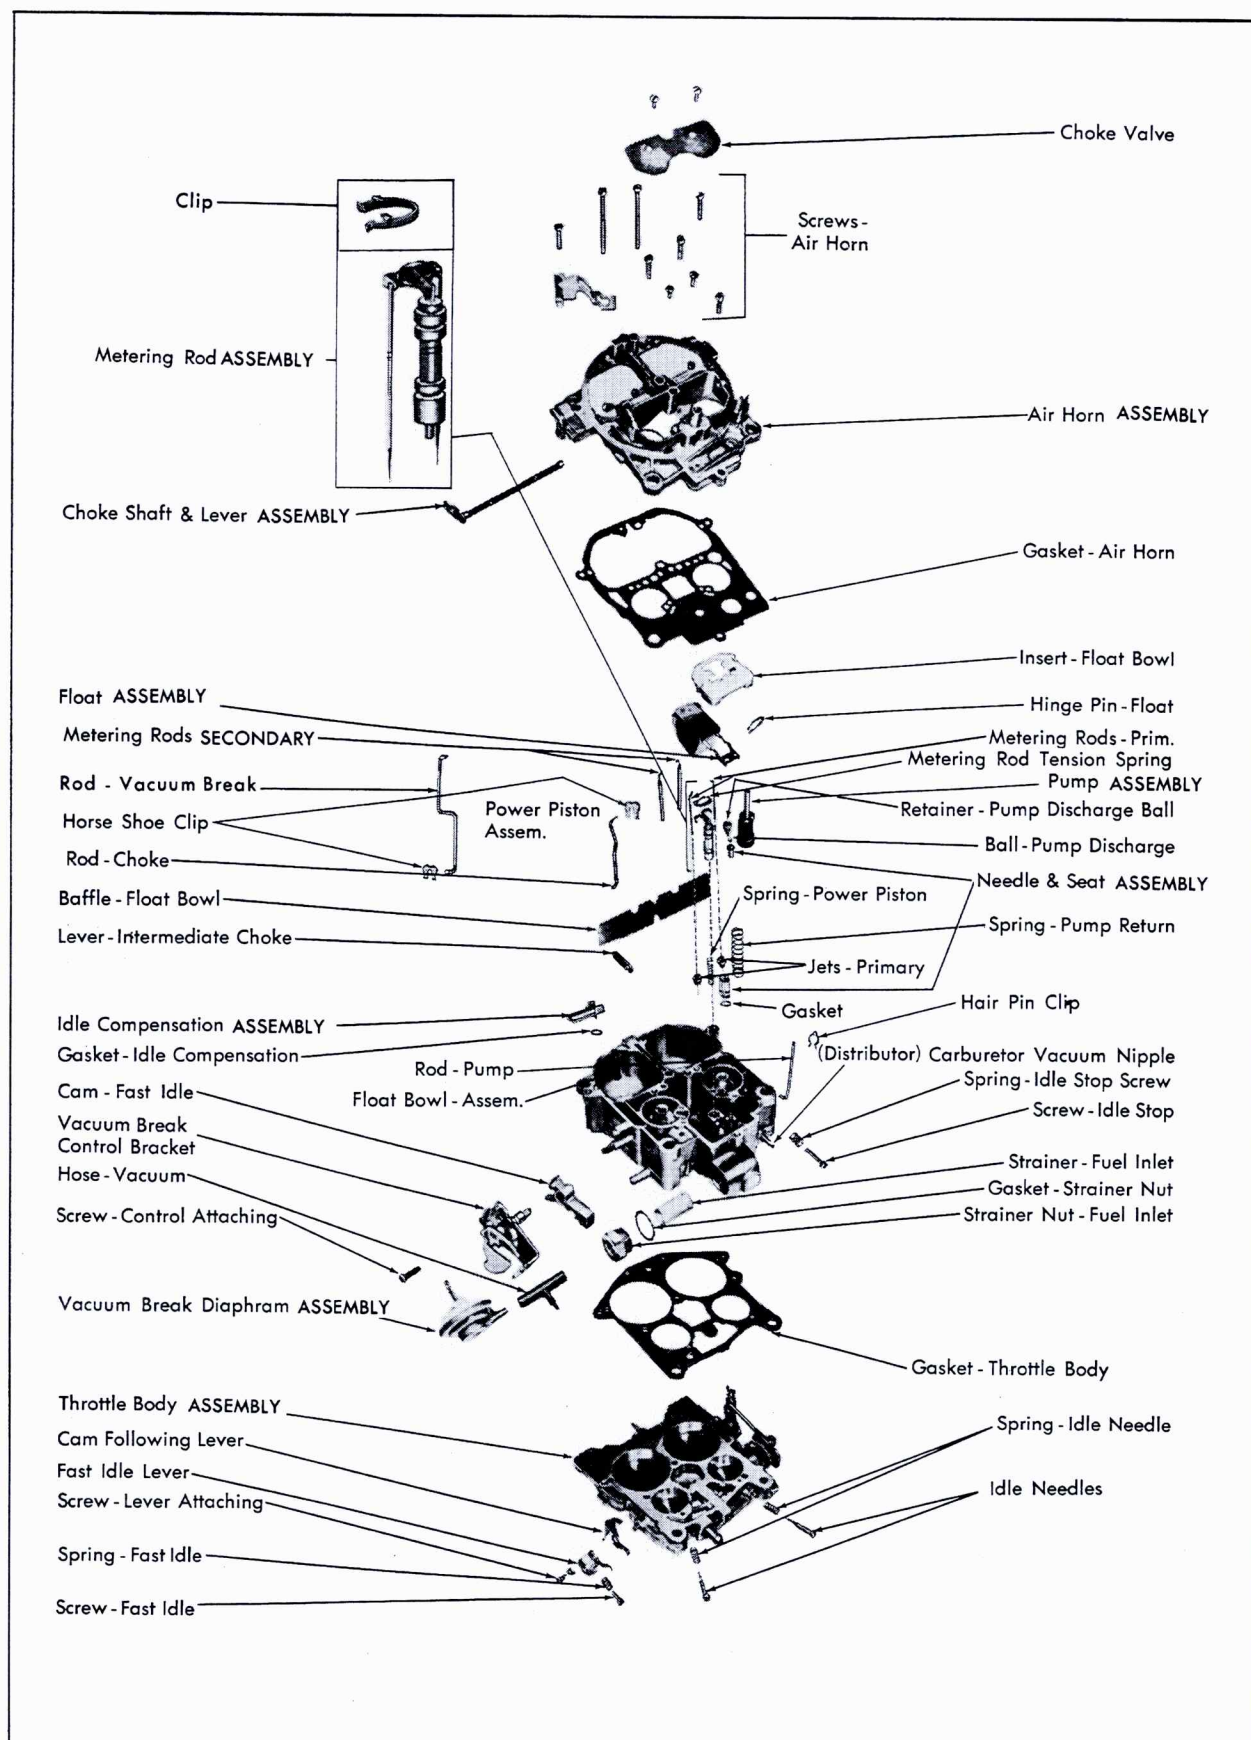

Fig. 6-74 Quadrajet 4MV Exploded View
See inset of Metering Rod Assembly, Fig. 6-74.
1. Thoroughly clean carburetor castings and metal parts, Fig. 6-74 in an approved cold immersion type carburetor cleaner.
15. Install power piston spring in power piston well. If primary main metering rods were removed from hanger, re-install, making sure that tension spring is connected to top of each metering rod. See Fig. 6-74. Install power piston assembly in well with metering rods properly positioned in metering jets. Install power piston retainer on top of power piston.